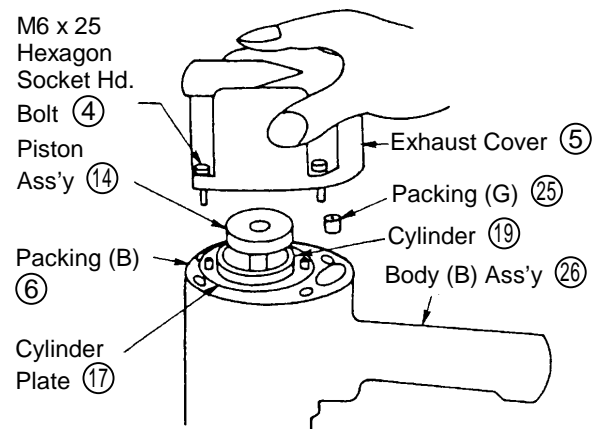

Fig. 9 Disassembly of Upper Part of Main Body
- Loosen the four M6 x 25 Hexagon Socket Hd. Bolts (4), and remove the Exhaust Cover (5) from the Body (B) Ass'y (26). Packing (G) (25), Packing (B) (6), and the piston Ass'y (14) can then be removed. (see Fig. 9)